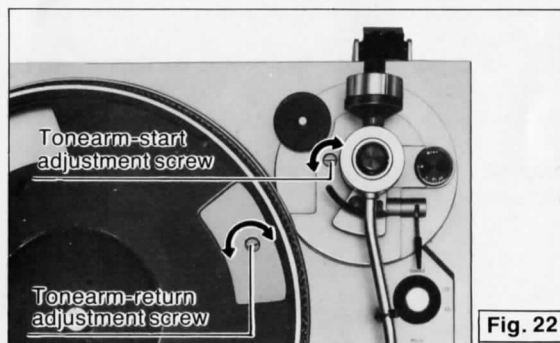

Fig. 22
■ Adjustment for automatic start position (See Fig. 22.)
■ Adjustment for automatic return position (See Fig. 22.)